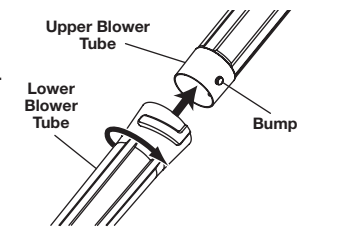

Fig. 2
- Align the bump slot on the top end of the lower blower tube with the bump on the end of the upper blower tube (Fig. 2).
- Place the lower blower tube onto the upper blower tube (Fig. 2).
- Twist the lower blower tube clockwise until tight (Fig. 2).